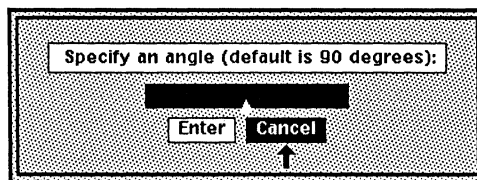

Figure 21-23. Rotate Numeric stickup menu
**Rotate Numeric** allows you to specify a rotation numerically. When you use the **Rotate Numeric** command, you will see a stickup. Enter the number of degrees you want to rotate the selected object (Figure 21-23). The default is 90 degrees.